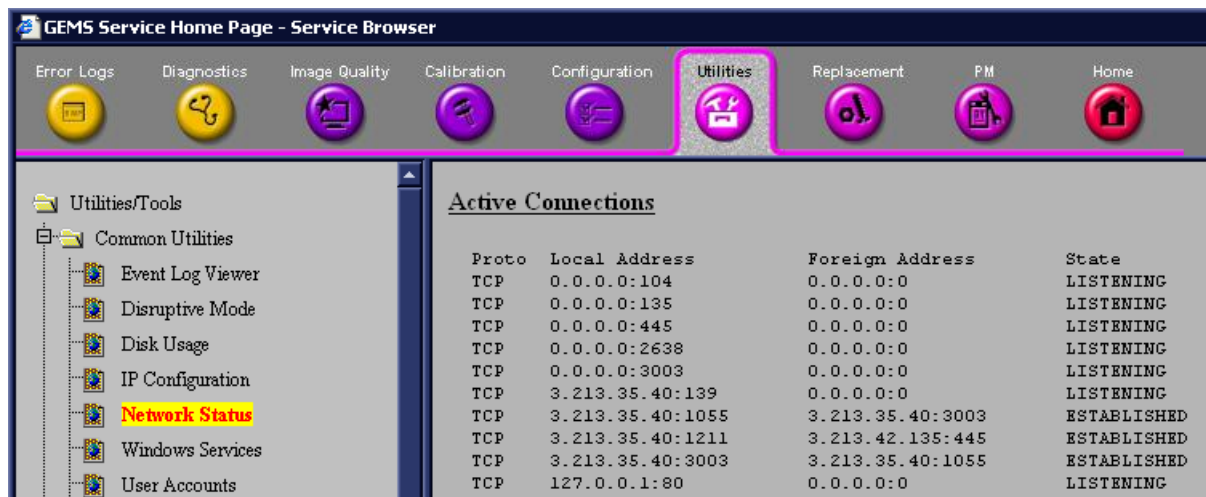

Figure 7-126 Network Status
- **Network Status** - displays information concerning the system's communication with the network - see Figure 7-126.